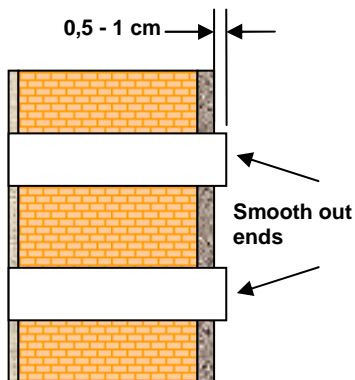

Abb. 1
1. Cut the ventilation pipes to an excess length of 0,5 – 1,0cm. Smooth out the ends on the outside, in order to avoid damages to the sealing material of the hood (Abb. 1).